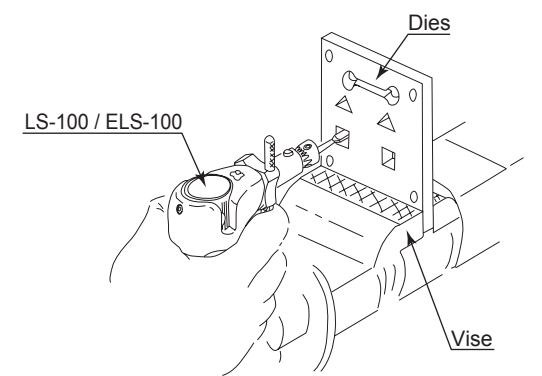

Fig. 9
- Finishing the complicated shapes and sizes (Fig. 9).